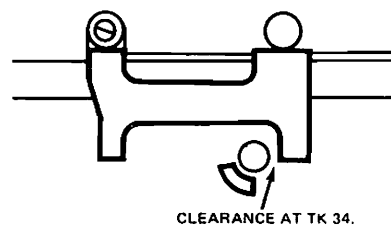

FIGURE 7 CARRIAGE LIMITER CLEARANCE
- f. Remove SA124 diskette and insure there is clearance between the rear leg of the limiter and the stepper motor shaft (Ref. Figure 7).